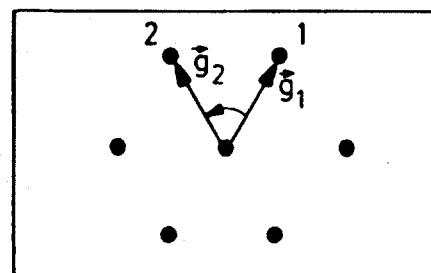

Fig. 2.8b
- In order to perform the same type of measurement between g_2 and g_3 , key **ENTER**. On the display the data start to scroll. The above value d_2 becomes d_1 . The old d_1 is lost. The new d_1 (i.e. the old d_2) is now the new reference vector g_1 (see Fig. 2.8b).